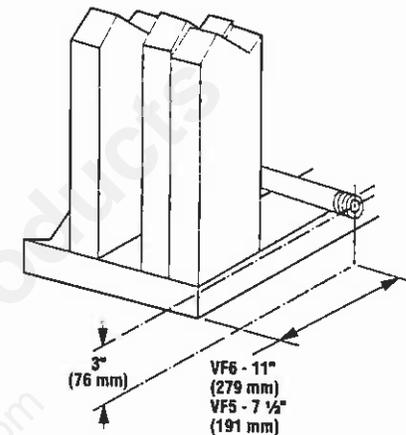

Figure 10
Step 2. Route a 1/2" (13 mm) gas line along the left or right side framing (Figure 10).